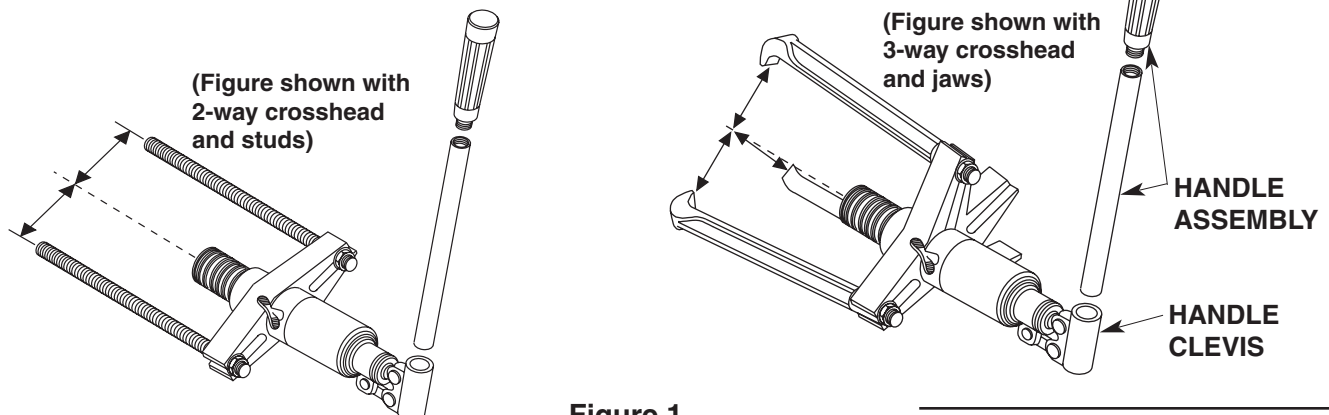

Figure 1
- Align the puller on the same centerline as the part being removed. Always have the jaws/studs adjusted the same distance from the center of the tool (see Figure 1). Failure to align parts correctly can result in a dangerous operating situation because of the high hydraulic pressures used.
2. Place the handle assembly into the handle clevis. See Figure 1.